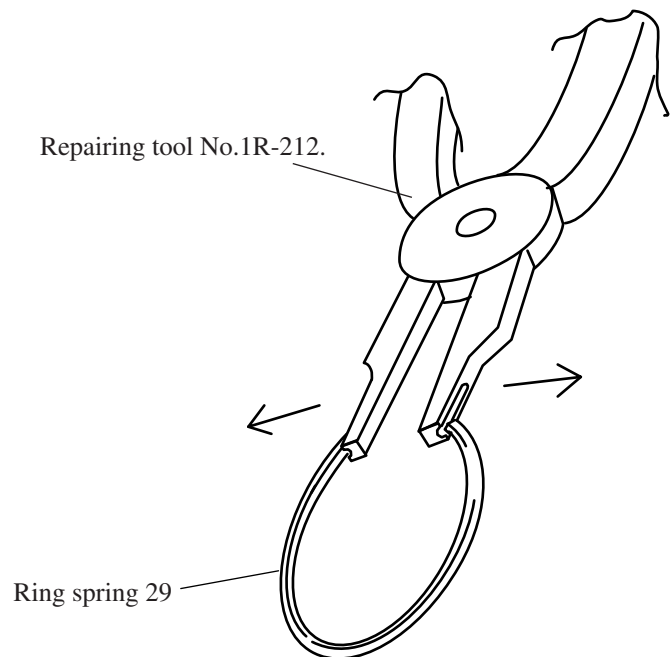

Fig. 10
3. Remove ring spring 29. (see Fig.10)